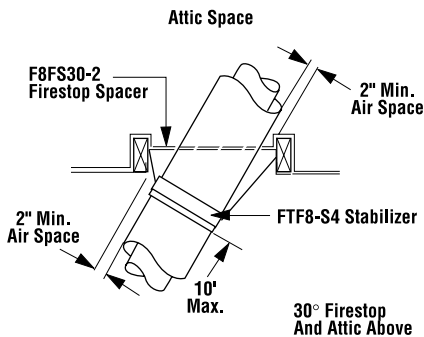
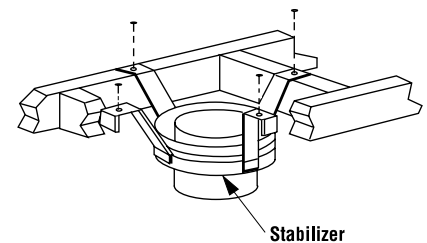

Figure 22
Figure 27
It may be necessary to assemble the chimney at 30° when passing through the floor or ceiling area. Use the F8FS30-2 firestop spacer as shown in *Figures 22 and 23*. Support the chimney at floor or ceiling penetration with a FTF8 stabilizer if distance of chimney below ceiling is 10' or more. Maintain 2" minimum air space to combustibles from chimney sections.
Install Model F8-S4 or F10-S4 stabilizer by fitting inner section down into respective section of proceeding flue pipe and locking outer stabilizer section into place over the outer chimney pipe. Position for proper clearance through framed opening and nail straps securely (under tension in "shear") into place on framing. Use 8d nails. Attach successive lengths of chimney pipe directly to stabilizer using same techniques as described in Step 4 (*Figure 27*).
**Step 1.** Use Offset Chart to determine amount of horizontal offset (A) and height (B) for various chimney section assemblies.
**Step 3.** Use Elevation Chart as job estimator only. Add necessary firestop spacers and stabilizers as required. Firestop spacers must be used as shown in *Figures 22 and 23* and stabilizers as shown in *Figure 27*.